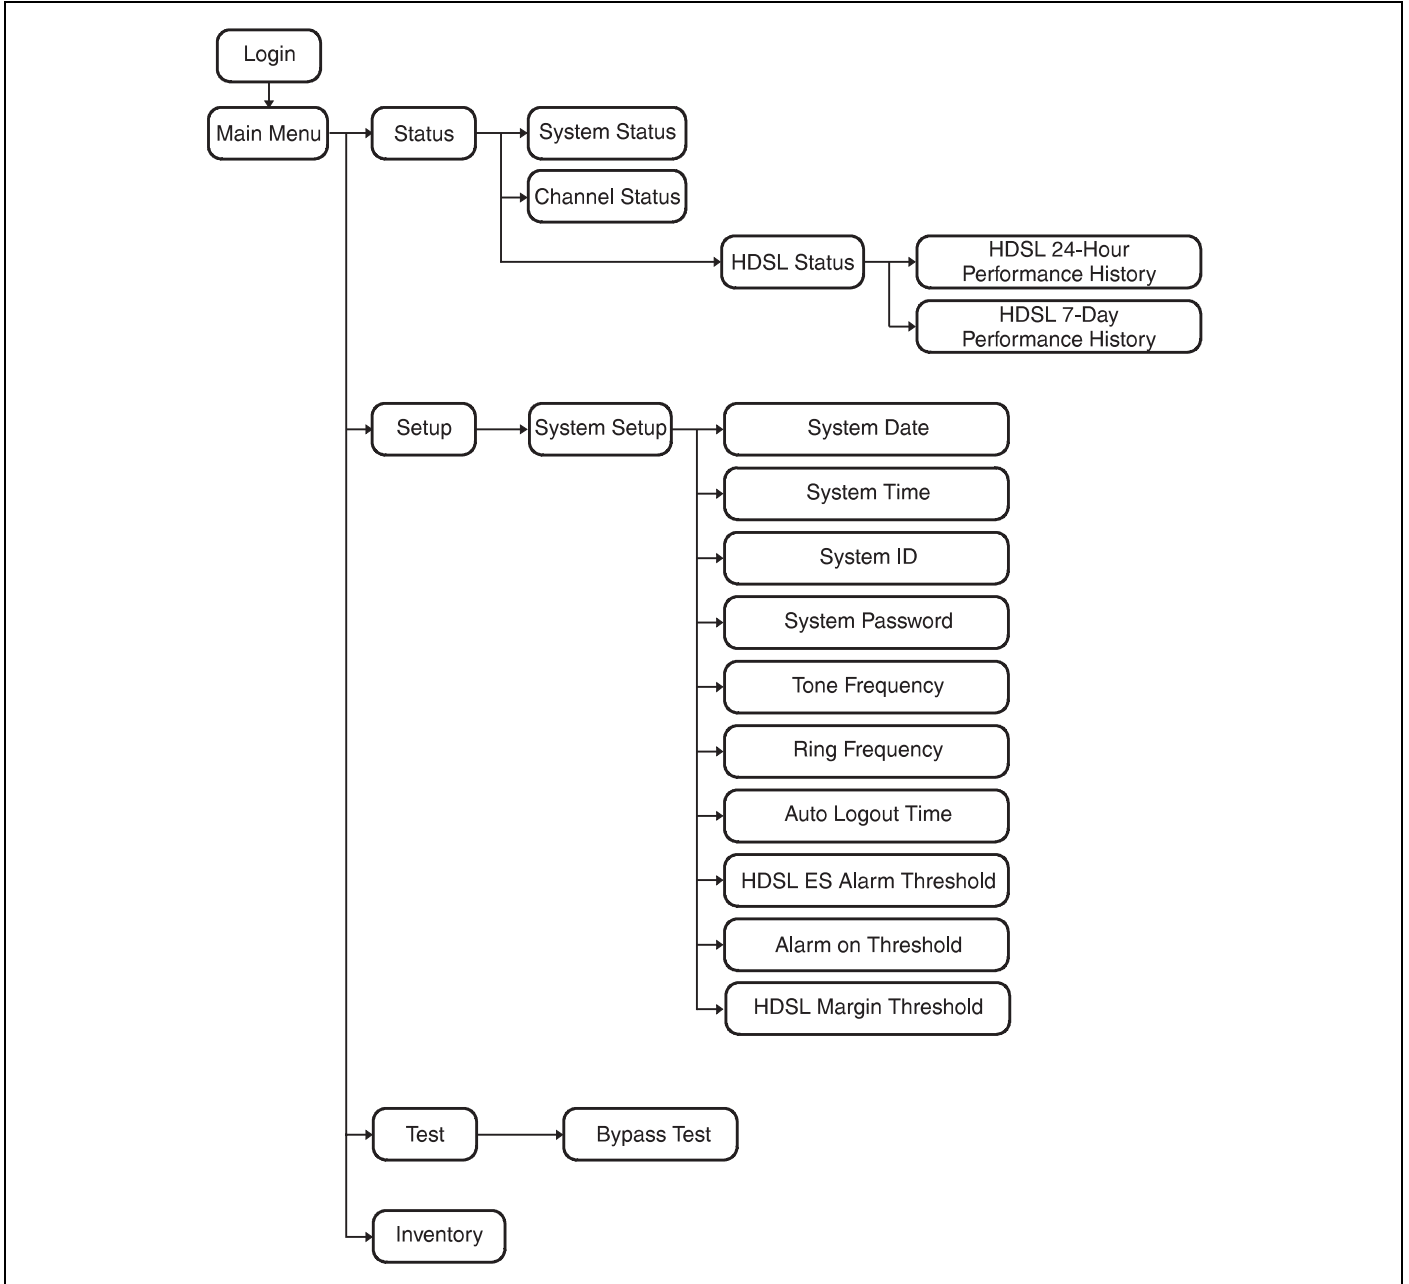

Figure 5. Terminal Menu and Display Structure.
8.03 Menus and Displays. Figure 5 (on next page) shows the menu structure of the terminal management system. Following are brief descriptions of each menu and display screen:
- **Status.** By selecting the Status option (A) from the Main Menu, the technician can: